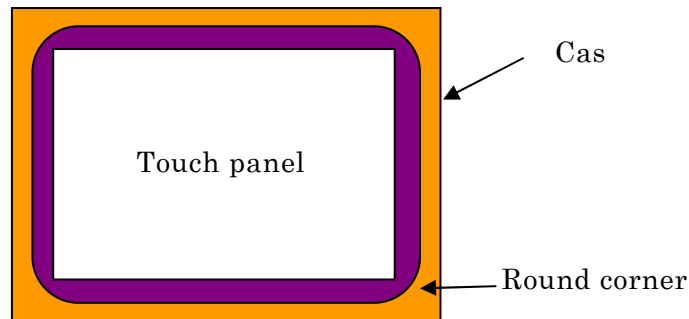

Fig. 10-3
- (6) Design a round part to the bezel to protect the edge of the touch panel as fig10-3.